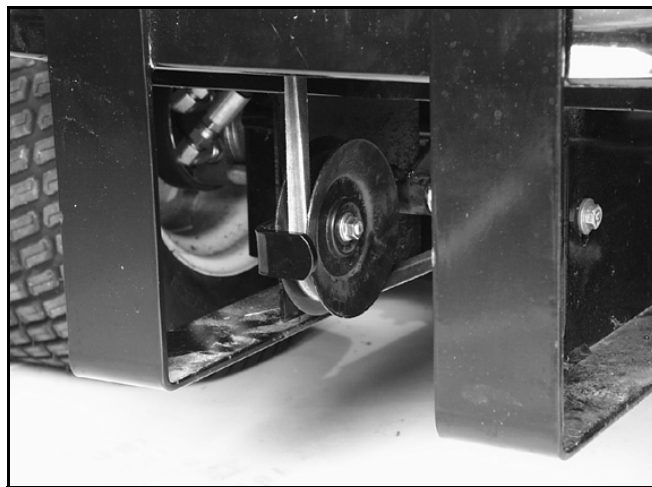

Figure 22
6. Release the tension from the drive belt by raising the lever against the spring tension and remove the belt from the PTO pulley (Figure 22).